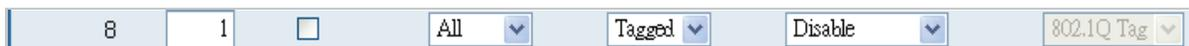

Figure 4-6-13: The configuration of VLAN Trunk Port
- Specify **Port-8** to be the 802.1Q VLAN **Trunk port**, and the Trunking port must be a **Tagged** port while egress. The Port-8 configuration is shown in the following screen in Figure 4-6-13.